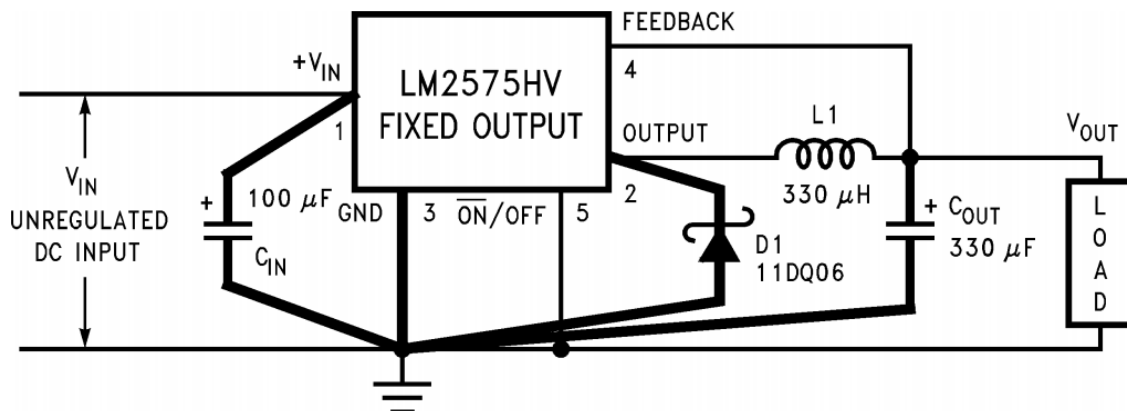
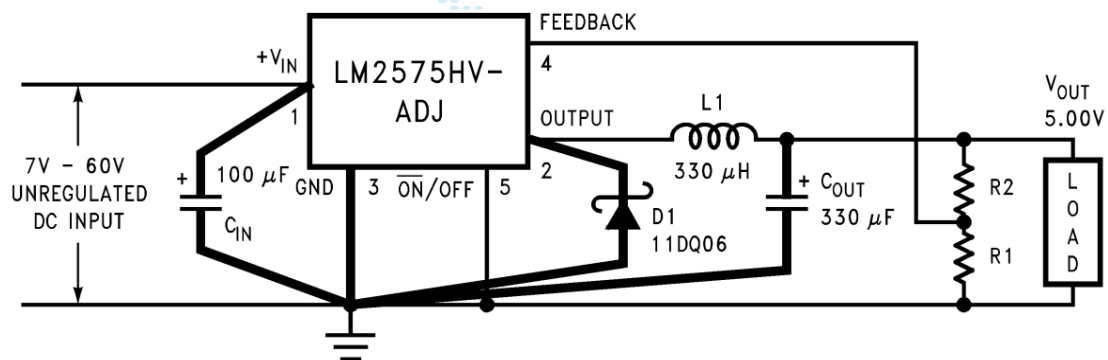

Figure 2. Fixed Output Voltage Versions
Figure 3. Adjustable Output Voltage Version
SYSTEM PARAMETERS Test Circuit Figure 2 and Figure 3
(1) All limits specified at room temperature (standard type face) and at temperature extremes (bold type face). All limits are used to calculate Average Outgoing Quality Level, and all are 100% production tested.
(2) All limits specified at room temperature (standard type face) and at temperature extremes (bold type face). All room temperature limits are 100% production tested. All limits at temperature extremes are specified via correlation using standard Statistical Quality Control (SQC) methods.
(3) External components such as the catch diode, inductor, input and output capacitors can affect switching regulator system performance. When the LM2575 is used as shown in the test circuit Figure 2 and Figure 3, system performance will be as shown in system parameters of Electrical Characteristics.
(3) External components such as the catch diode, inductor, input and output capacitors can affect switching regulator system performance. When the LM1575/LM2575 is used as shown in the test circuit Figure 2 and Figure 3, system performance will be as shown in system parameters of Electrical Characteristics.
ON /OFF CONTROL Test Circuit Figure 2 and Figure 3